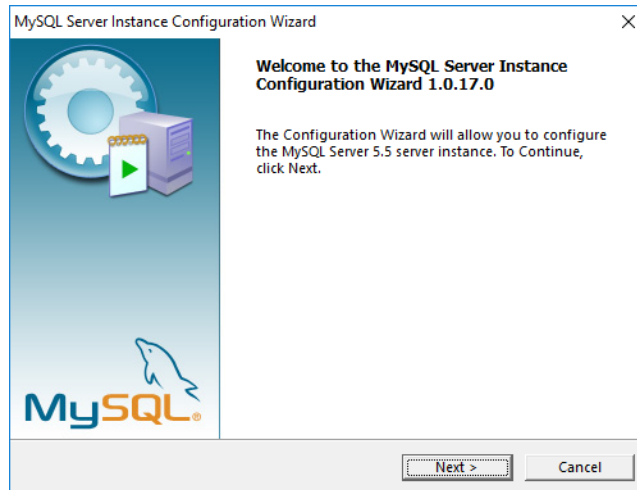

Figure A7
1. On the "Welcome to the MySQL Server Instance Configuration Wizard" screen, click "Next". (Figure A7)